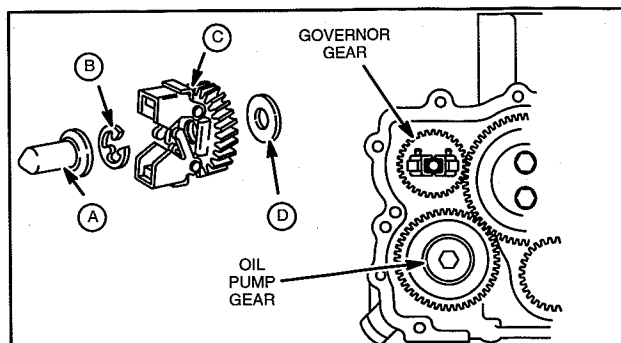

Fig. 5 - Removing Governor Gear
5. Remove governor gear, Fig. 5.